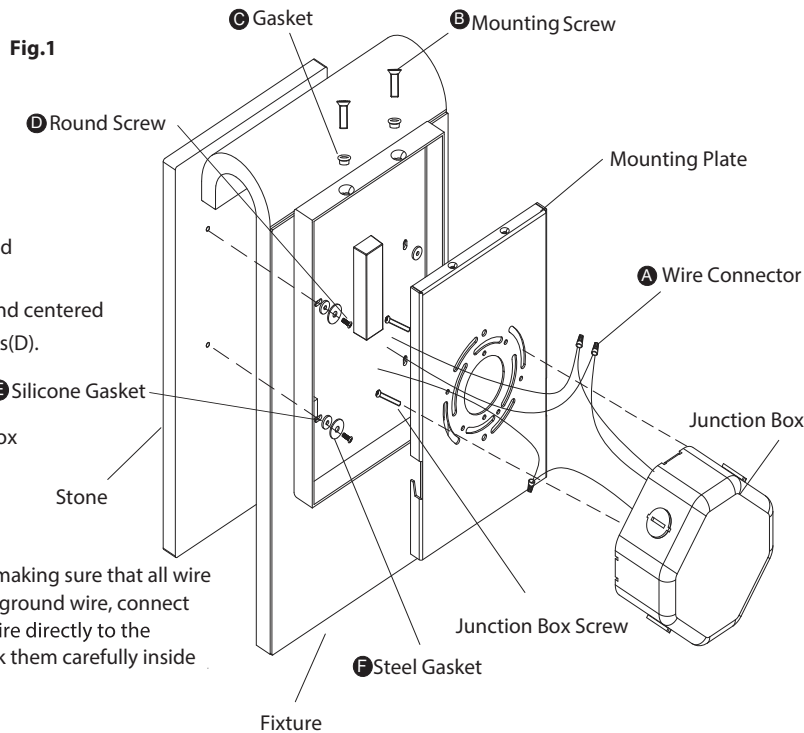

Fig. 2 Wiring
CONNECTING THE WIRES (Fig. 2)
6. Connect the fixture's input wires to junction box wires as shown in Fig. 2, making sure that all wire connectors (A) are secured. If your outlet box has a green or bare copper ground wire, connect the fixture's ground wire to it. Otherwise, connect the fixture's ground wire directly to the mounting plate using the screw provided. After wires are connected, tuck them carefully inside the junction box.